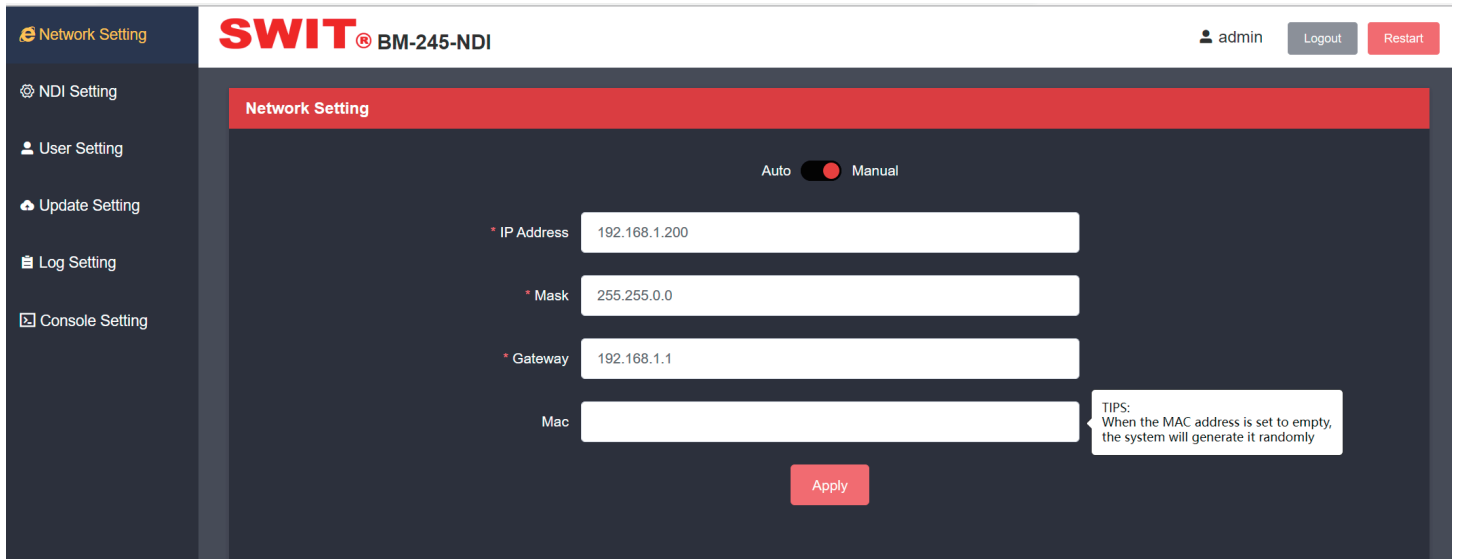

Fig.2
3. Click “Apply” after entering IP address,Mask,Gateway;If the network access way is changing from “Auto” to “Manual”,user need to refresh the page to show previous “IP Address”、“Mask”、“Gateway” and “Mac”(See Fig.2).